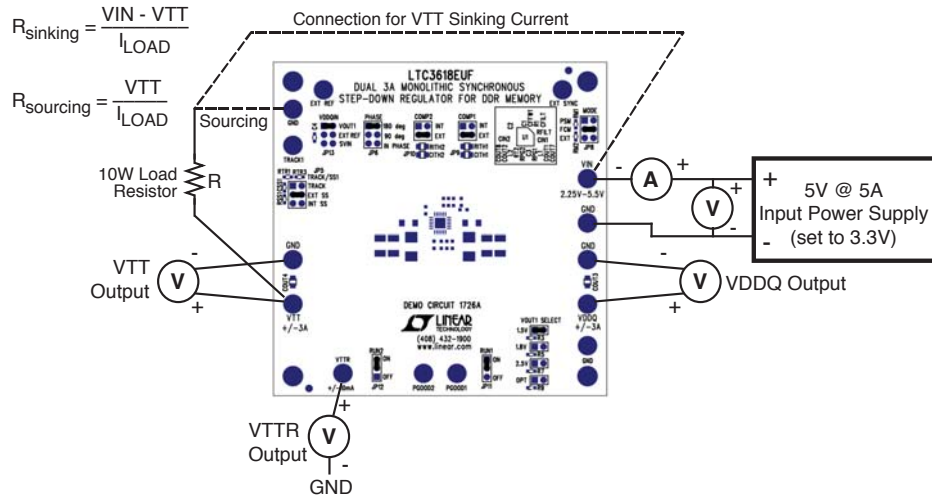

Figure 2. Proper Measurement Equipment Setup
Demonstration circuit 1726 allows the user to quickly evaluate the performance of the LTC3618. Refer to Figure 2 for proper measurement equipment setup and follow the procedure below
2. With the input power supply turned down and switched off, connect the supply and digital voltmeters as shown in Figure 2.
8. To evaluate sourcing current from VDDQ or VTT outputs, connect a suitable 10W load in series with an ammeter between each output terminal and ground. Resistor. See Figure 2 for resistor connections and resistor value equation. Verify that the output voltages still meet the specifications shown in the Performance Summary section.